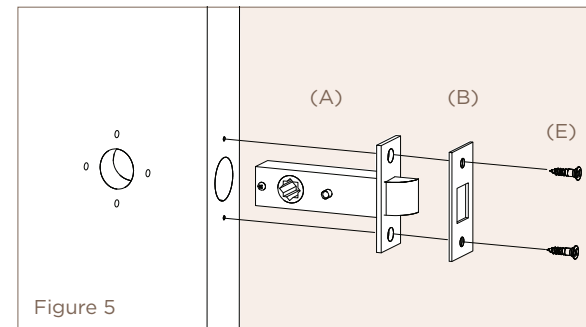

Figure 5
10. Fix using the Phillips head countersunk wood screws M4xL20mm (E). Figure 5